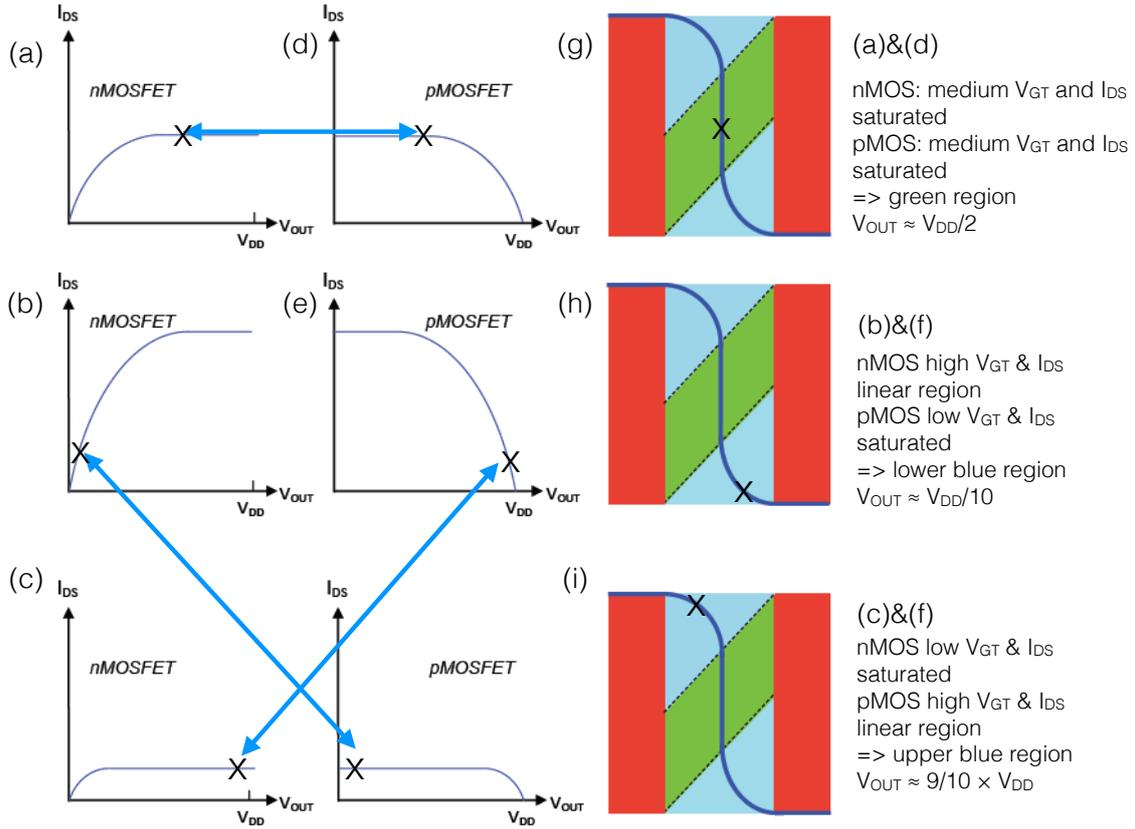

Figure 12.10: Solution to problem 5.1
The solution is shown in Figure 12.10.
- b) To find the output voltage one has to consider the voltage at which the two current curves that correspond to the same input voltage cross. Thus, we find that for V_{IN1} the bias point is in region B, for V_{IN2} in region C, and for V_{IN3} in region D. See also Figure 12.10 where graph (i) corresponds to V_{IN1} , (g) to V_{IN2} , and (h) to V_{IN3} .